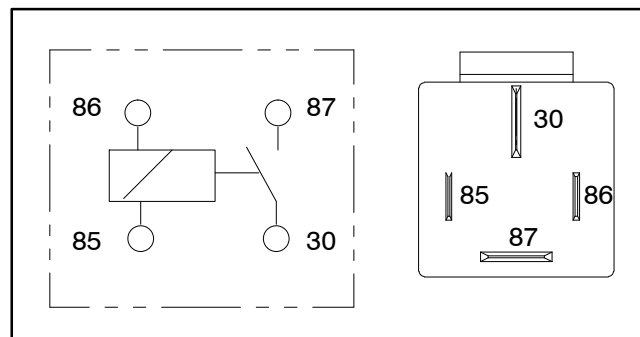

Figure 24
4. Verify coil resistance between main power terminals 85 and 86 with a multimeter (ohms setting) (Fig. 24). Resistance should be approximately **72 ohms**.